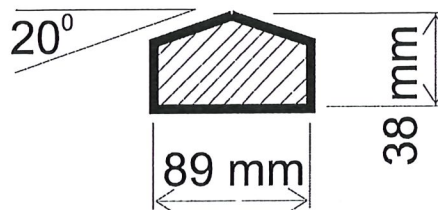

Figure 2.1.2.
(2) Where a bottom rail is bevelled, the minimum sizes shown in Table 2.1.2. may be reduced to allow for a bevel, as detailed in Figure 2.1.2.
3. The bottom rail may be bevelled as detailed in Figure 2.1.2.